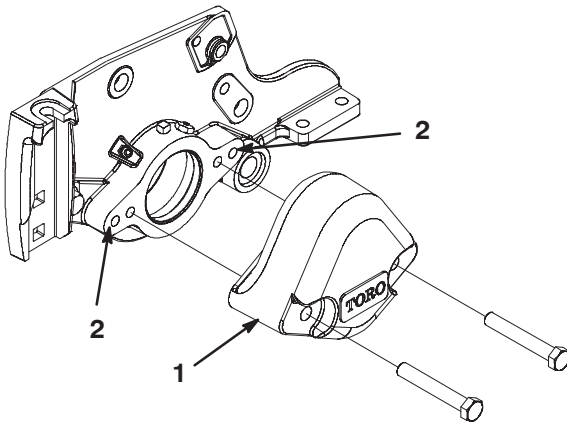

Figure 4
3. Remove the (2) bolts securing the counter weight to the left end of the cutting unit. Remove the counter weight (Fig. 4).
4. Using a 3/8-16 tap, remove the paint in the outer mounting holes in the side plate (Fig. 4).